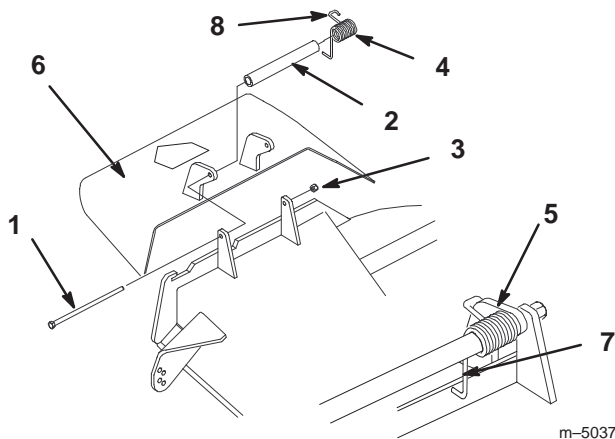

Figure 59
1. Remove the locknut, bolt, spring and spacer holding the deflector to the pivot brackets (Fig. 59). Remove damaged or worn grass deflector.
Note: Make sure the **L** end of spring is installed behind deck edge before installing the bolt as shown in figure 59.
3. Install bolt and nut. Place **J** hook end of spring around grass deflector (Fig. 59).